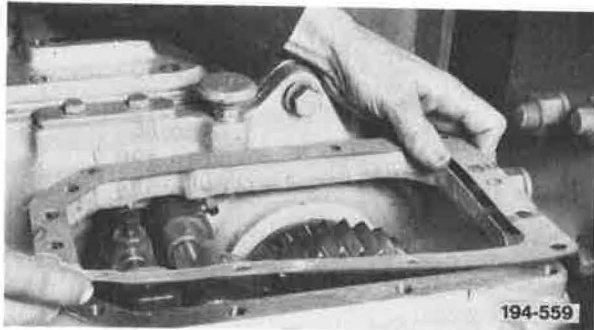

Figure 5-561. Installing Gasket
1. Install air shift cover gasket. See Figure 5-561.